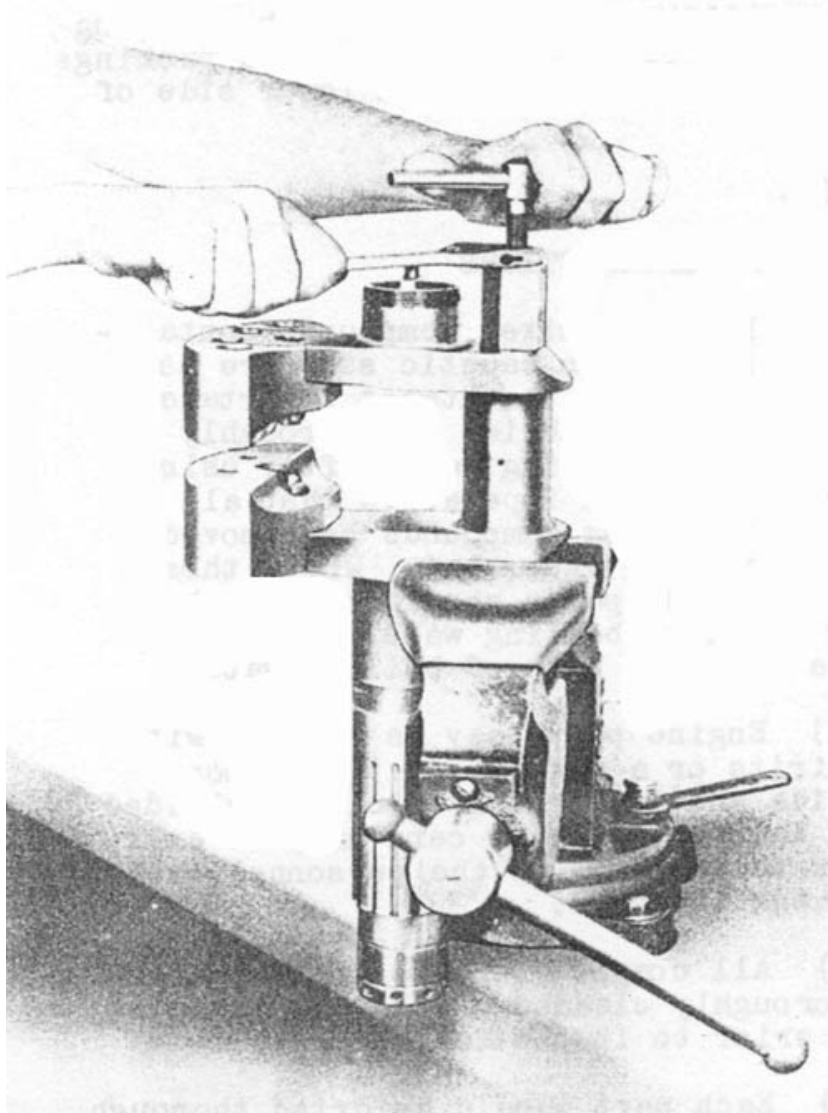

Figure 16 - Method of Removing Crankshaft Crankpin Plug From Crankshaft.
(15) Remove coupling.
(16) Using Tool No. FA-194 remove crankpin plug. See Figure 16.